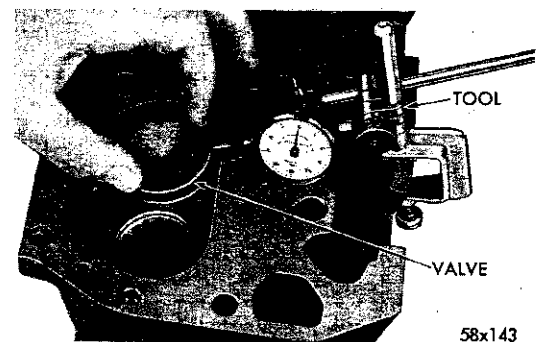

Fig. 11—Measuring Guide Wear Using Tool C-3339
(5) The special sleeve places the valve at the correct height for measuring with a dial indicator. Attach the dial indicator Tool C-3339 to the cylinder head and set it at right angle of the valve stem being measured (Fig. 11).
(6) Move the valve to and from the indicator. The total dial indicator reading should not exceed .010 inch on the intake valves, and .014 inch on the exhaust valves. Ream the guides for new valves with oversize stems if the dial indicator reading is excessive or if the stems are scored or worn excessively.
(7) Service valves with oversize stems are available in .005, .015 and .030 inch oversizes. Reamers